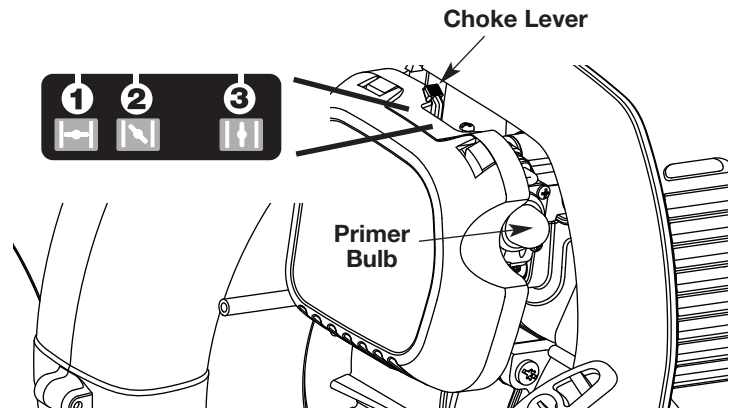
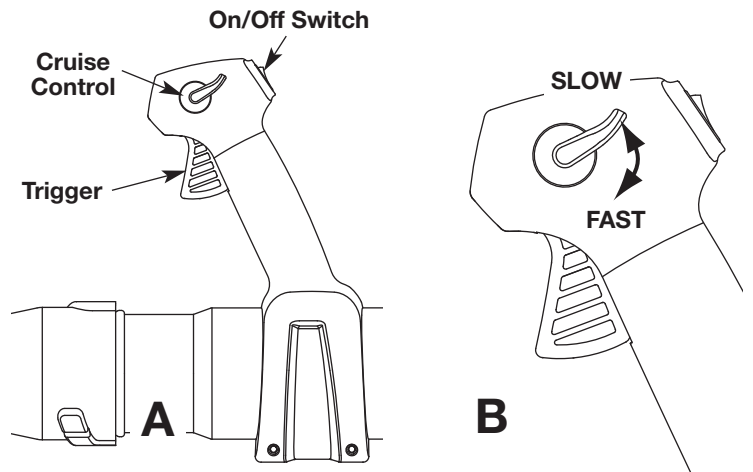
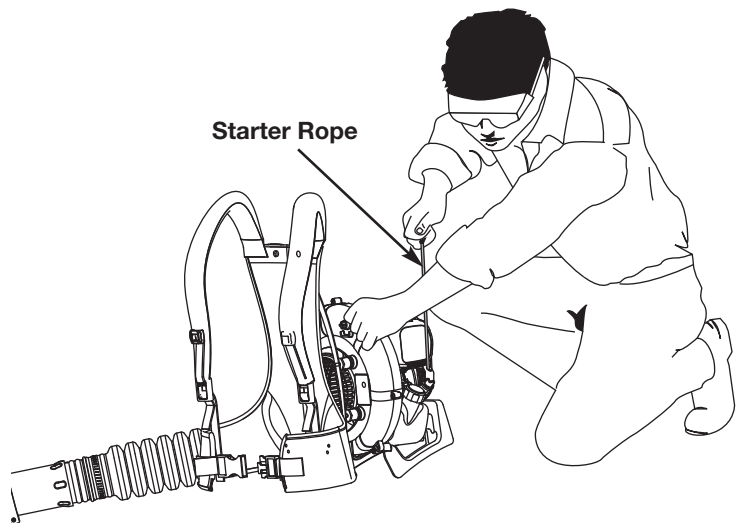

Fig. 14
Fig. 15
Fig. 16
WARNING: Avoid accidental starting. Make sure you are in the starting position when pulling the starter rope (Fig. 16). To avoid serious injury, the operator and unit must be in a stable position while starting. To avoid serious personal injury, make sure that the blower tube is locked in place or firmly installed.
3. Fully press and release the primer bulb **10** times, slowly. Some amount of fuel should be visible in the primer bulb (Fig. 14). If fuel cannot be seen in the bulb, press and release the bulb until fuel is visible.
4. Move the choke lever to **Position 1** (Fig. 14).
NOTE: The unit should be started in idle. Do not squeeze the trigger until step 8 (Fig. 15, A).
5. **Do not squeeze the trigger.** Crouch in the starting position (Fig. 16). Pull the starter rope **5** times in a controlled motion.
6. Move the choke lever to **Position 2** (Fig. 14).
8. Squeeze and hold the trigger, or press down the cruise control (Fig. 15, A), and allow the engine to warm up for 30 to 60 seconds.
9. **Continue to squeeze the trigger.** Move the choke lever to **Position 3** (Fig. 14) and continue warming the engine for an additional 60 seconds. During this time the unit may be used.
2. Press and hold the On/Off switch in the OFF (O) position until the unit comes to a complete stop (Fig. 15, A).
1. Once the engine has started and warmed up, squeeze the trigger to accelerate the unit as needed (Fig. 15, A).
2. For longer periods of operation and to eliminate possible finger fatigue, move the cruise control toward the FAST position to incrementally increase or maintain the unit's engine speed (Fig. 15, B). When the cruise control is pressed, the trigger will recede into the handle.
3. To decrease engine speed, move the cruise control to the SLOW position and the trigger will return to idle position (Fig. 15, B).
NOTE: The unit should be started in idle. Do not squeeze the trigger until step 10 (Fig. 15, A).
5. Crouch in the starting position (Fig. 16). Insert the electric starter or Power Start Bit™ into the back of the unit (Fig. 32). Refer to the *Operation* section of the Electric Starter or Power Start Bit™ operator's manual.
6. **Do not squeeze the trigger.** Press and hold the electric starter or drill's ON (I) button for 2 seconds.
7. Move the choke lever to **Position 2** (Fig. 14).
8. **Do not squeeze the trigger.** Press and hold the electric starter or drill's ON (I) button for 2-second intervals until the unit starts.
10. Squeeze and hold the trigger, or press down the cruise control (Fig. 15, A), and allow the engine to warm up for 30 to 60 seconds.
11. **Continue to squeeze the trigger.** Move the choke lever to **Position 3** (Fig. 14) and continue warming the engine for an additional 60 seconds. During this time the unit may be used.
- Use the cruise control (Fig. 15) to keep the trigger depressed while operating to make continuous operation easier.